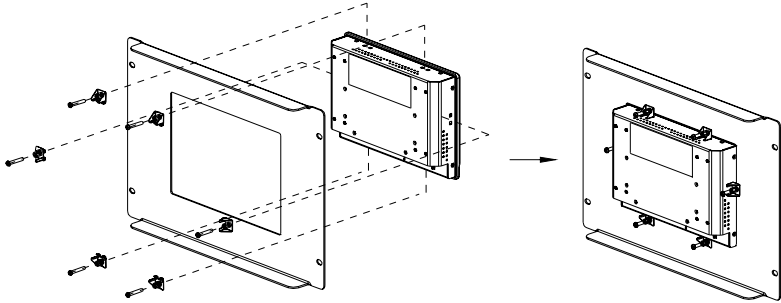

**Figure 2.1: Wall Mounting**
Please refer to figure 2.1 and follow the steps below to install FPM-3060G on a wall. The wall mounting kit is optional.
2. Screw three screws on the wall with the dimensions used in Figure 2.1.